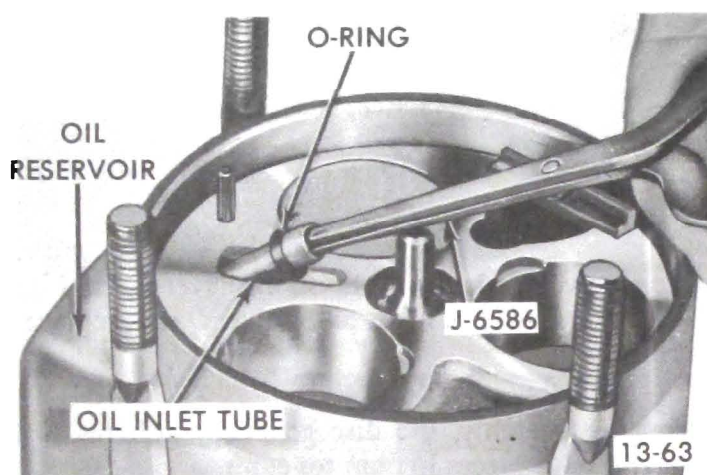

Figure 13-46 Removing Oil Inlet Tube
1. Pull out oil inlet tube (see Figure 13-46) and oil inlet tube "O" ring using Remover (J-6586).